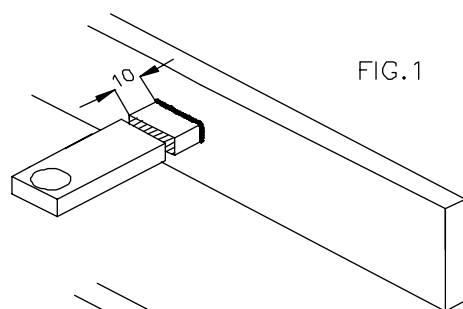

FIG.1
-TAGLIARE LA STAFFA ALLA QUOTA INDICATA IN FIG.1
- COUPER L'ETRIER A LA COTE INDIQUEE SUR LA FIG.1
-CUT THE BRACKET AT THE HEIGHT INDICATED IN FIG. 1
- DEN BÜGEL AN DEM IN ABB. 1 ANGEGEBENEN MASS ABTRENNEN
-QUITAR EL ESTRIBO A LA CUOTA INDICADA EN LA FIG.1
-CORTAR O ESTRIBO NA COTA INDICADA NA FIG.1
-VERSNIJ DE BEUGEL TER HOOGTE VAN DE MARKERING AANGEGEVEN IN FIG.1